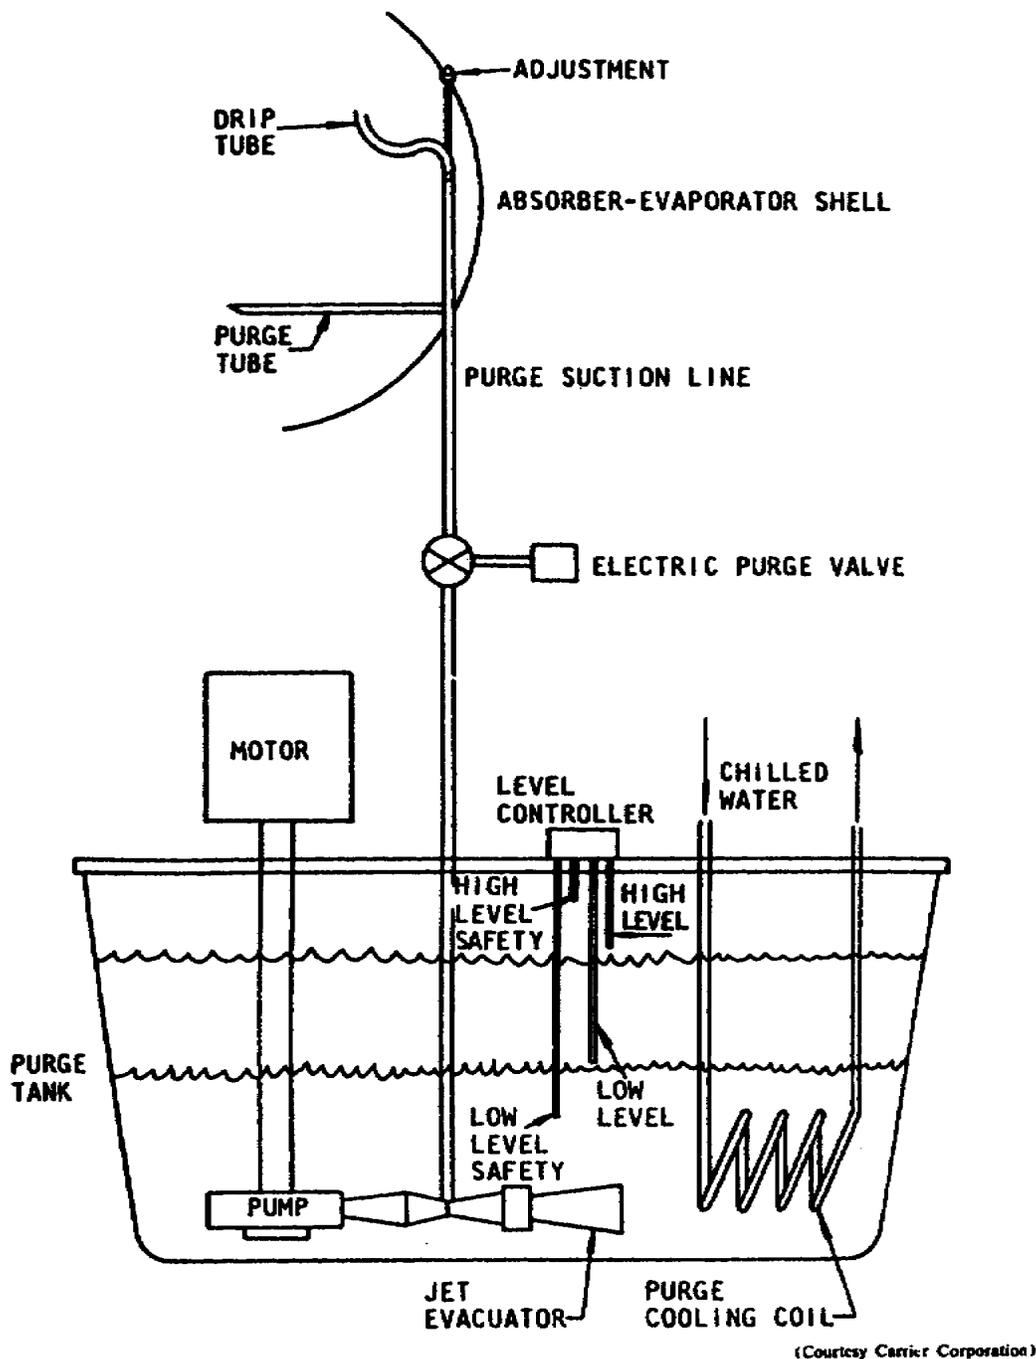

Figure 31. Jet purge unit.
8. *Jet purge.* On some systems, the jet purge, shown in figure 31, has been adapted to the unit. It is entirely automatic and provides a source of very low pressure which is capable of removing noncondensables from the machine when required. Since noncondensables travel from high-pressure regions to low-pressure regions-generator, condenser, evaporator, absorber-the purge suction tube is located in the lower section of the